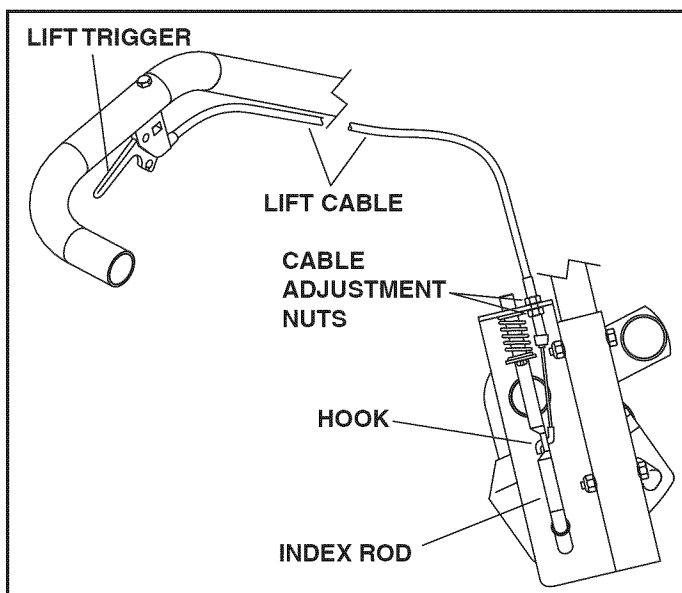

FIGURE 13
STEP 14: INSTALL LIFT CABLE (SEE FIGURE 13)
- Attach the lift cable to the lift handle using three cable ties (RR).